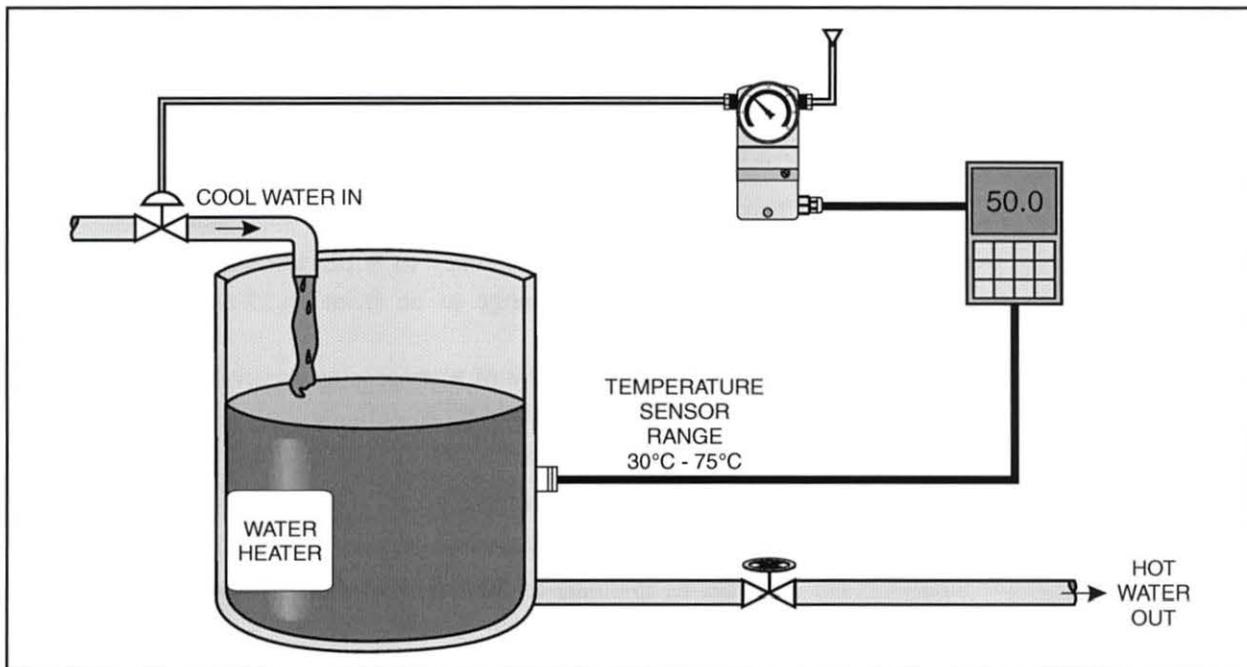

Figure 15. Temperature Control Process with a Range of 30°C to 75°C
6. Determine the accuracy of the temperature control process shown in figure 15 as a percentage of the upper range value, given the following information: